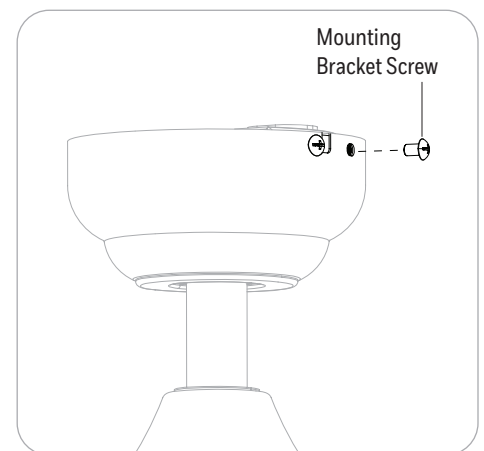

Figure 4.3
3. Secure the canopy with the two previously removed mounting bracket screws. Tighten all the mounting bracket screws securely (Figure 4.3).